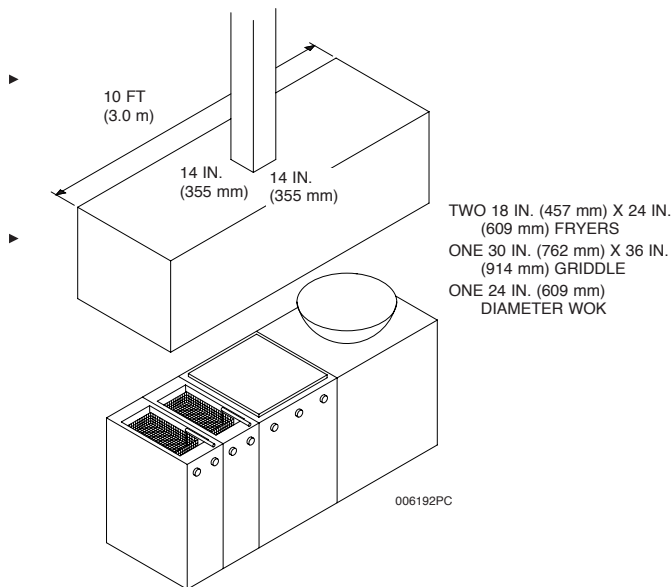

FIGURE 3-35
- ▶ 56 in. (1422 mm) perimeter exhaust duct, a 10 ft (3.0 m) long “V” bank plenum, two 18 in. (457 mm) wide x 24 in. (609 mm) fryers, a 30 in. (762 mm) x 36 in. (914 mm) wide griddle, and a 24 in. (609 mm) diameter wok. See Figure 3-35.